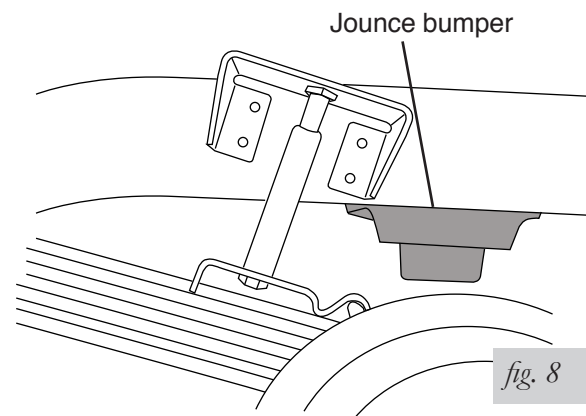

fig. 8
1. It may be necessary to remove or trim the rubber jounce bumper bracket in order to provide sufficient clearance for the fully inflated air spring (fig. 8).